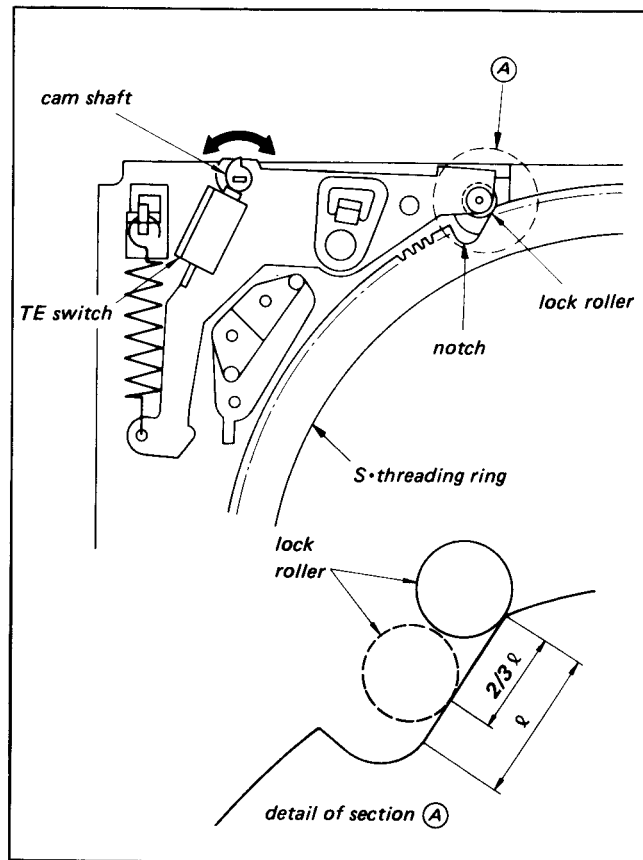

Fig. 3-33. TE Switch Position Adjustment
[Check Procedure] (Fig. 3-33)
Rotate the S threading ring by hand and check that the TE switch turns on and off with a clicking noise while the lock roller is moving within the upper 2/3 of the straight portion ℓ of the recess (A) in Fig. 3-33 on the ring. If not, adjust as follows.